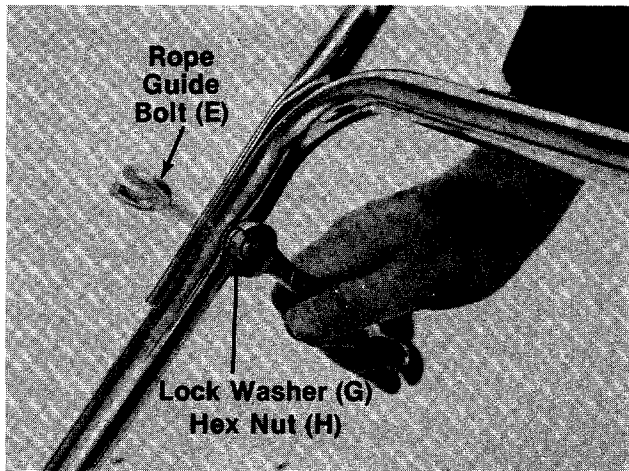

FIGURE 5.
1. Place the upper handle in position over the lower handle. The throttle control must be on the right hand side of the handle. Secure the right hand side of upper handle using the rope guide bolt (E), lock washer (G) and hex nut (H) as shown in figure 5.